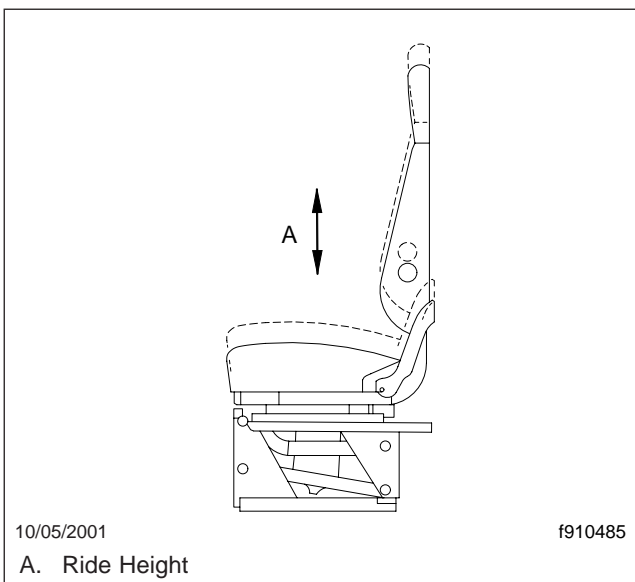

Fig. 3.7, Ride Height Adjustment
8. **Ride Height Adjustment:** The entire seat moves up or down when adjusting the ride height. The adjustment is either manual or air controlled, depending on the make and model of the seat. See Fig. 3.7.